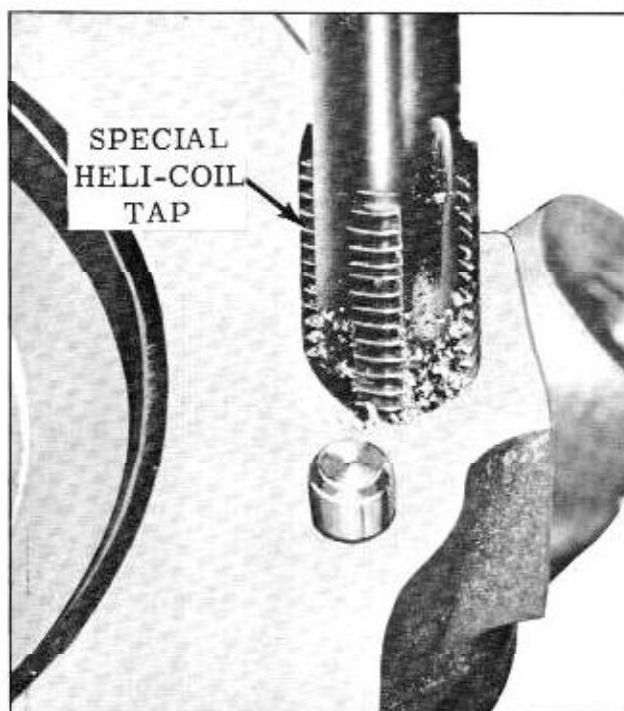

Fig. 8-52 Tapping New Threads
2. Cut new threads using the proper Heli-Coil tap for the size thread being repaired. Use only the special tape furnished in the kit. (Fig. 8-52)